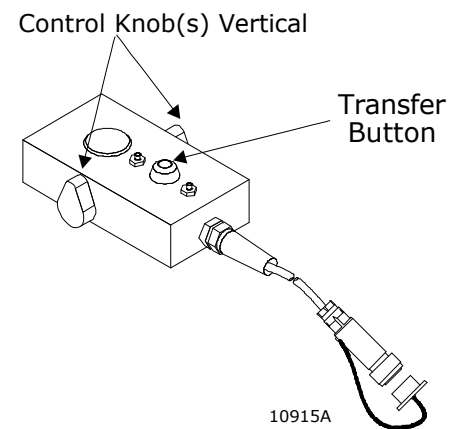

Figure 3 – Taking Command at the Hand Held
| FIGURE 3 – TAKING COMMAND AT THE HAND HELD | 3 |
- The control knobs are in the vertical position. (Refer to Figure 3)
Reference Figure 3.